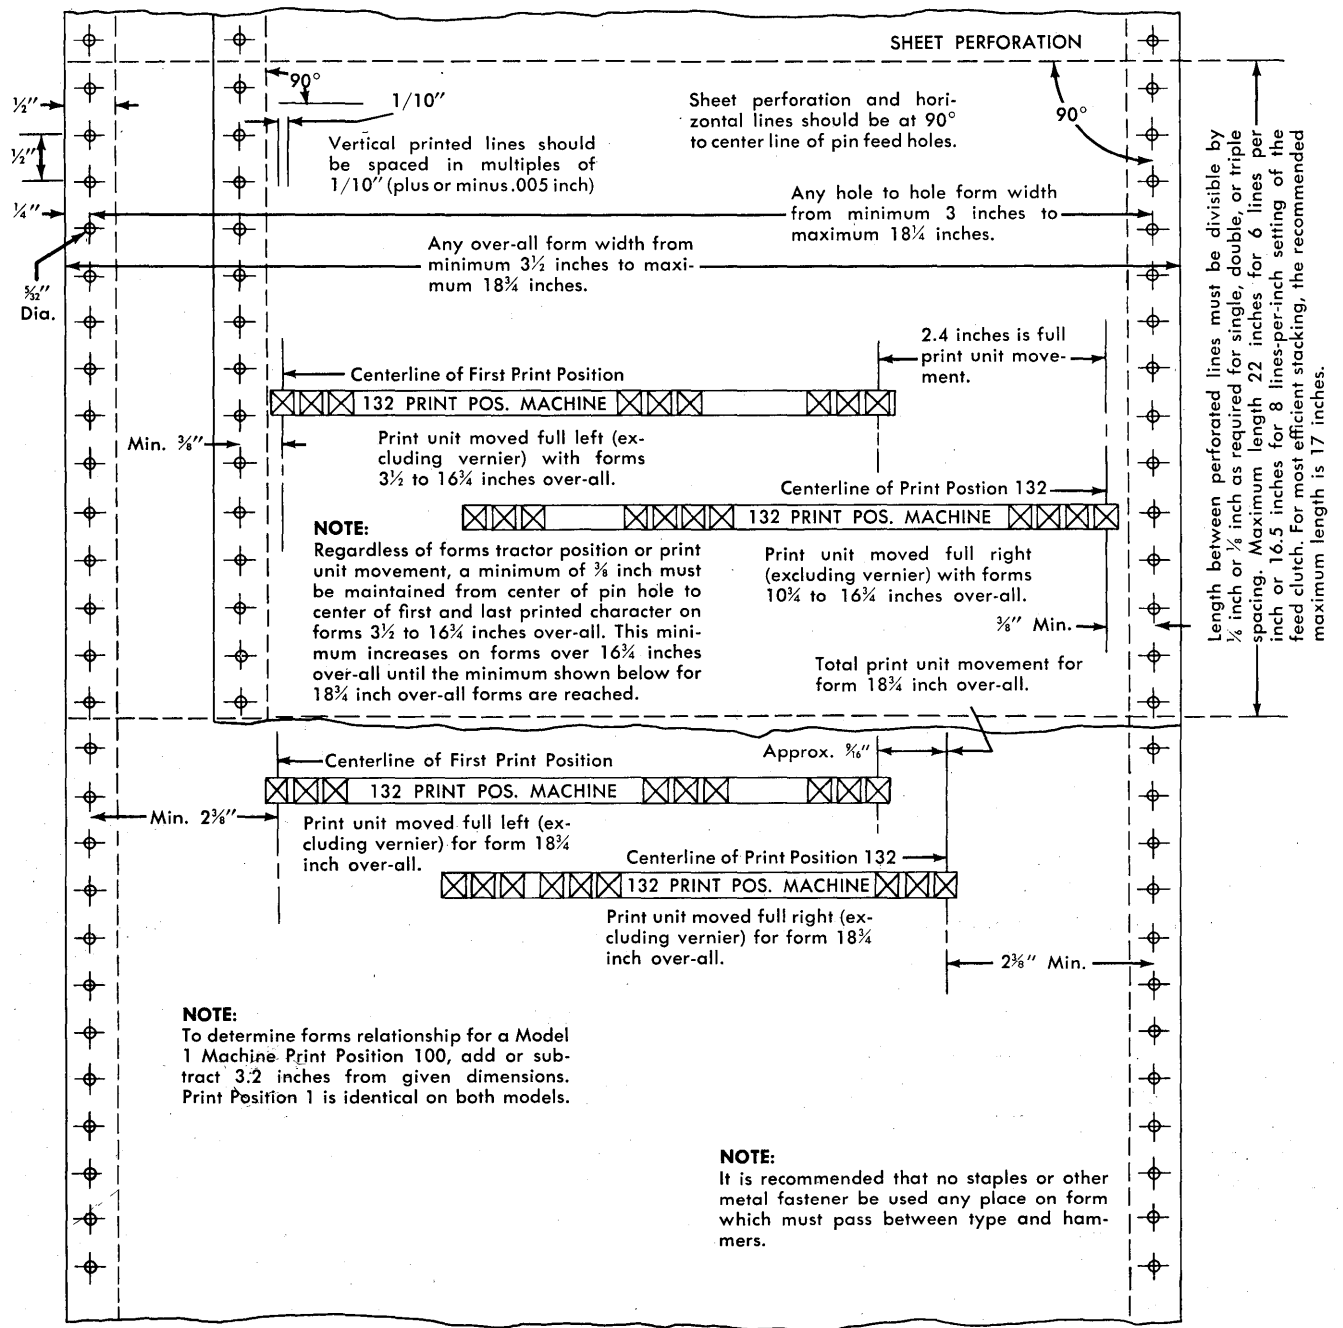

Figure 36. Form Specifications
The IBM 1403 Printer carriage is designed to feed marginally punched continuous forms satisfactorily under the conditions and specifications outlined in Figure 36. These specifications, if followed, give maximum operating efficiency when the 1403 carriage is used. They are not intended to be restrictive, rather they are intended to permit customers to purchase their continuous forms from the manufacturer of their choice.
1. The maximum form width is  $18\frac{3}{4}$  inches, and the minimum is  $3\frac{1}{2}$  inches (Figure 36).
*Width of Forms:* Although forms of any width within the extremes of those shown in Figure 36 can be used, it is recommended that form widths be confined to the standard sizes shown in Figure 37.